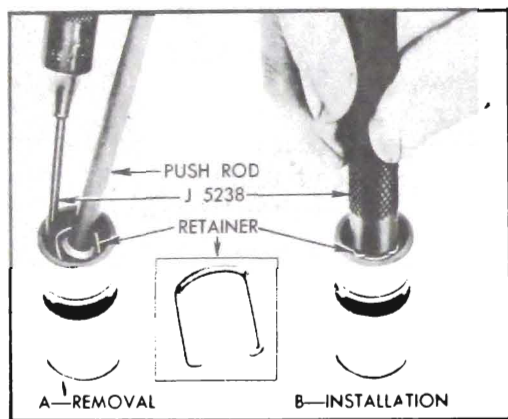

Figure 60-221--Removing and Installing Plunger Retainer
5. Disassemble each valve lifter by using a push rod to hold down the push rod seat while removing the plunger retainer from the lifter body using Retainer Remover J-5238. See Figure 60-221. Remove push rod seat, oil metering valve, and plunger from lifter body.
17. Rinse push rod seat, metering valve, and plunger retainer place these parts in end of body and degrease with handle of Remover J-5238 until retainer engages groove in body. See Figure 60-221, View B.